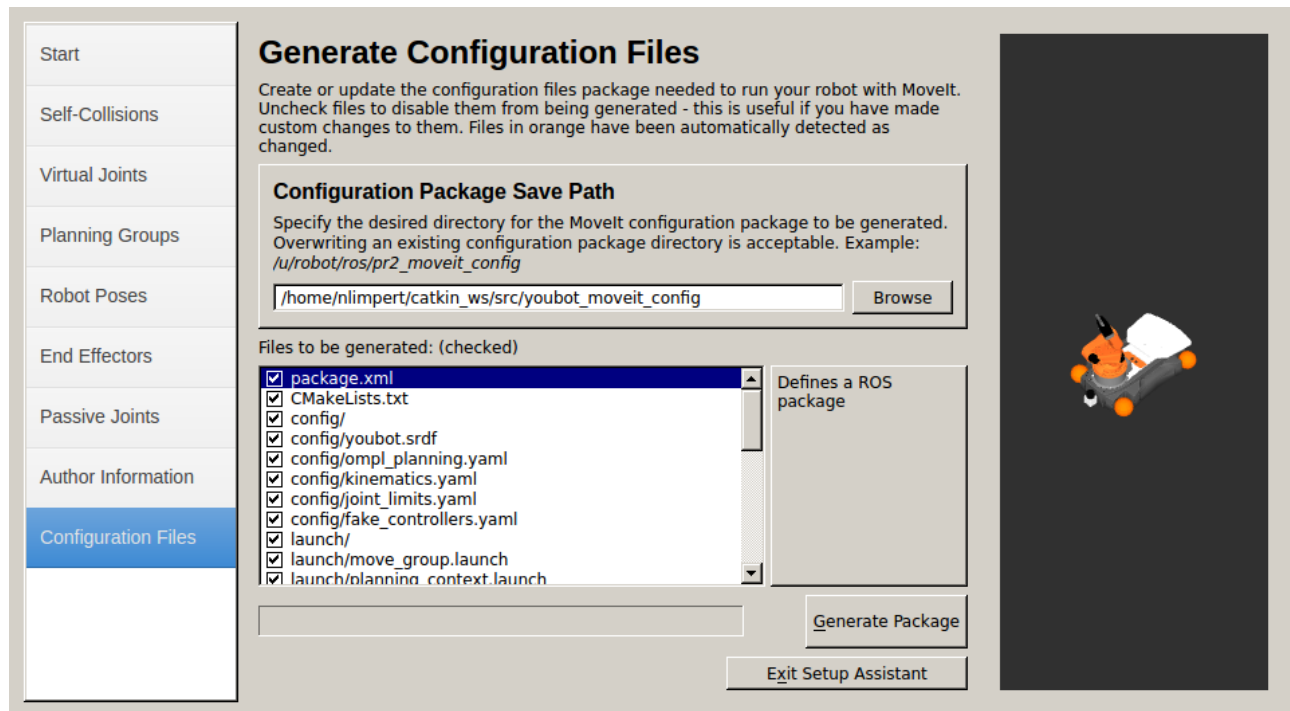

Figure 9: Save configuration files
- Click on "Configuration Files", click "Browse" and select a path inside your workspace as shown in figure 9.